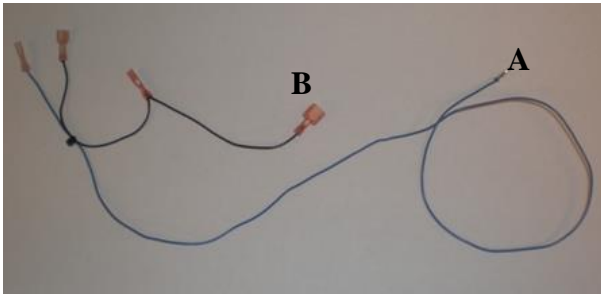
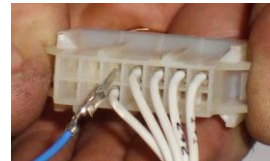

Figure 14C
Figure 14D
40. Attach the end of the blue wire (labeled A, Figure 14C) to the back of the plug on the factory tray harness. The pin connector will be installed in the same row as the four motor leads, right above the single common wire. Notice the grooves in the actual plug and match the pin connector to them. Gently push the pin until it snaps into place (Figure 14D).
41. Connect the end of the black wire (labeled B, Figure 14C) to the #4 motor common wire (Figure 14E). The common wire will be labeled with a “G” and will be the larger of the two terminals. Wrap with electric tape to cover the exposed section where the expansion harness connects to the factory harness. When completed the assembly will appear like in Figure 14E.